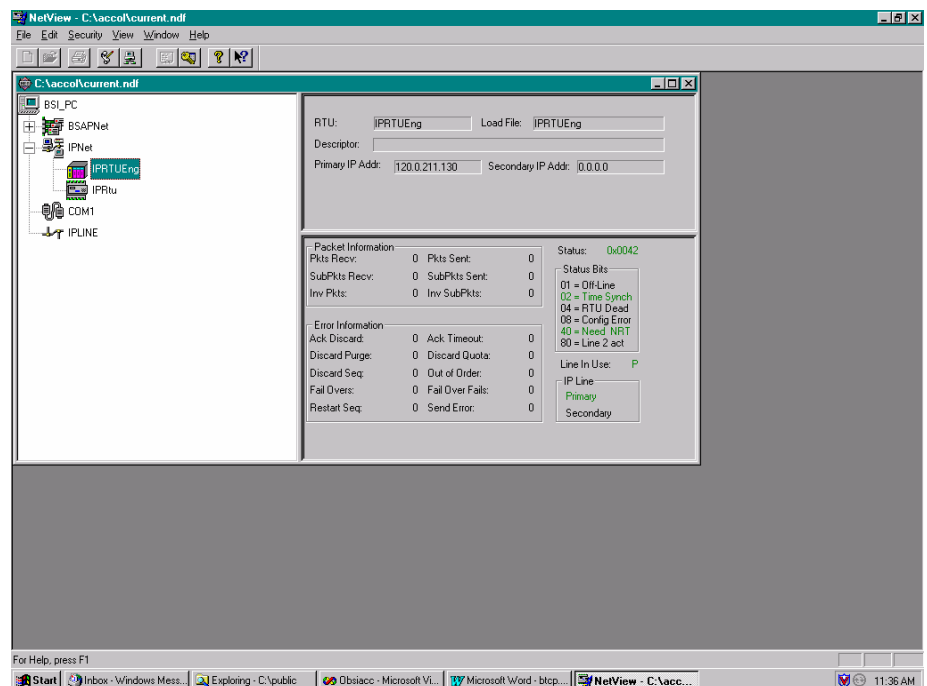

Figure 5-20. NetView
- Start the NetView program in OpenBSI with your current network NETDEF file. A menu displays (similar to the one in *Figure 5-20*):